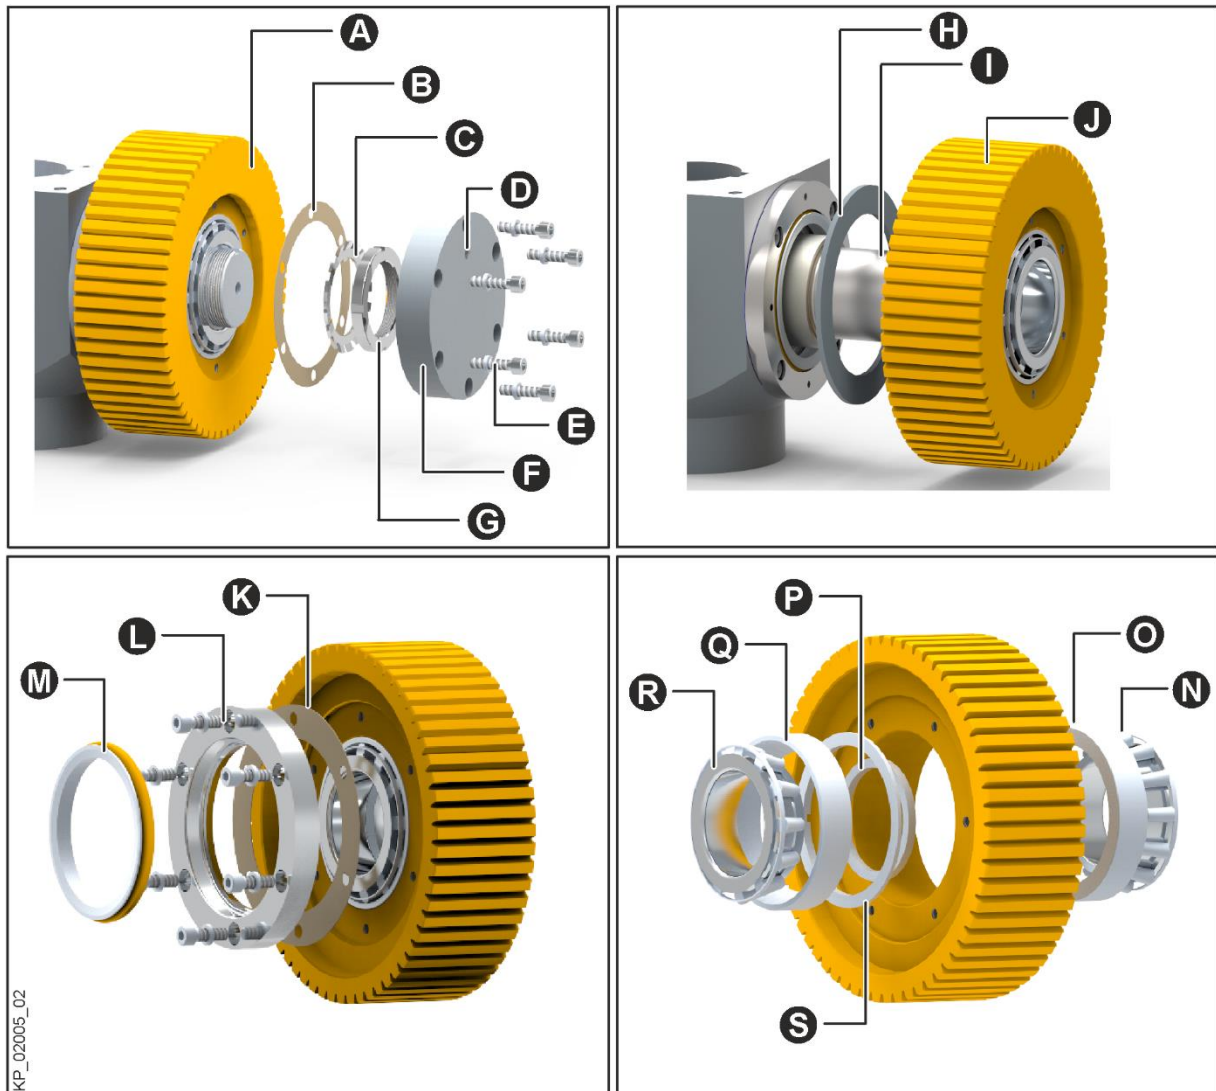

Fig. 54: Pan grinder rollers with axial face seal
- Insert a new flat seal (Fig. 54/K).
- Put the inner cover (Fig. 54/L) on the pan grinder roller and screw it tightly to the pan grinder roller.
- Press in the first outer ring (Fig. 54/Q) of the taper roller bearing with suitable tools.
- Insert the spacer ring (Fig. 54/S).
- Press in the second outer ring (Fig. 54/O) of the taper roller bearing with suitable tools.
- Slip the inner ring (Fig. 54/R) of the taper roller bearing with roller cage on the vertical roller axle.
- Insert the spacer ring (Fig. 54/P).
- Insert the Teflon washer (Fig. 54/H).
- Slip the pan grinder roller with pre-assembled bearing set, inner cover (Fig. 54/L) and axial face seal (Fig. 54/M) on the roller axle.
- Slip on the second inner ring (Fig. 54/N) with roller cage.
- Insert the locking plate (Fig. 54/C).
- Screw on the grooved nut (Fig. 54/G) by hand.
- Lock the grooved nut (Fig. 54/G).
- Insert a new flat seal (Fig. 54/B) and fasten the outer cover.